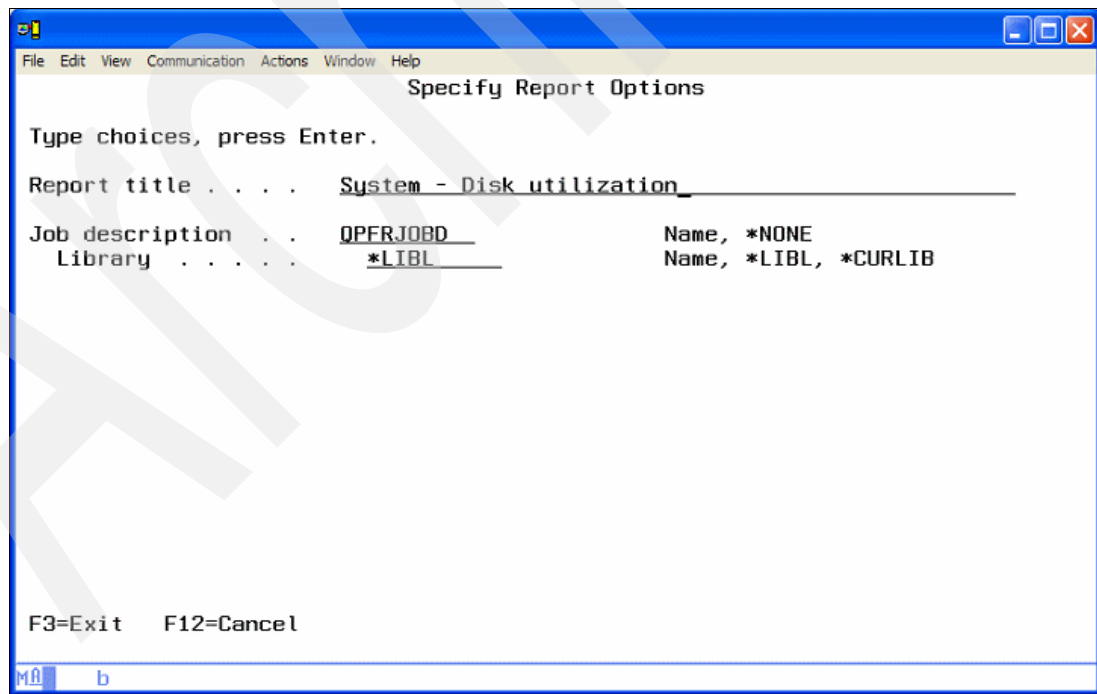

Figure A-26 Specify Report Options panel
- On the Specify Report Options panel (Figure A-26), give the report a title. In this example, we specify a title of *System - Disk utilization*.
5. In the Specify Report Options panel (Figure A-26 on page 468), give the report a title. The report generation request is submitted to batch.